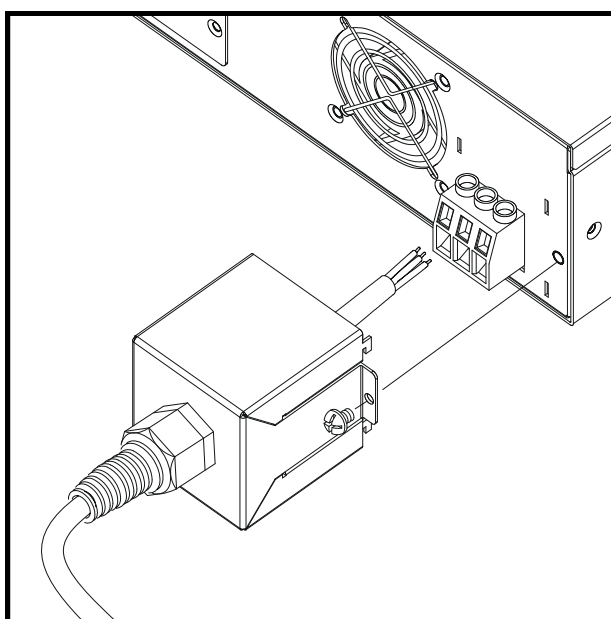

Figure 2-2
- (1) The input connector board is located at the right of rear panel.
- (2) The power line must be 85°C rated at least.
- (3) The power cable width must be within 10AWG~12AWG. (**Note:** 62050P must be within 8AWG ~10AWG when connecting 3-phase 4-wireΔ.)
- (4) To assemble 62006P, 62012P & 62024P → see Figure 2-2 and execute the following steps: